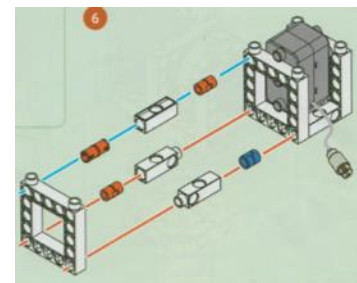

Figure 4: Motor Block Assembly
**Use Figure 4 for steps 7-10.**